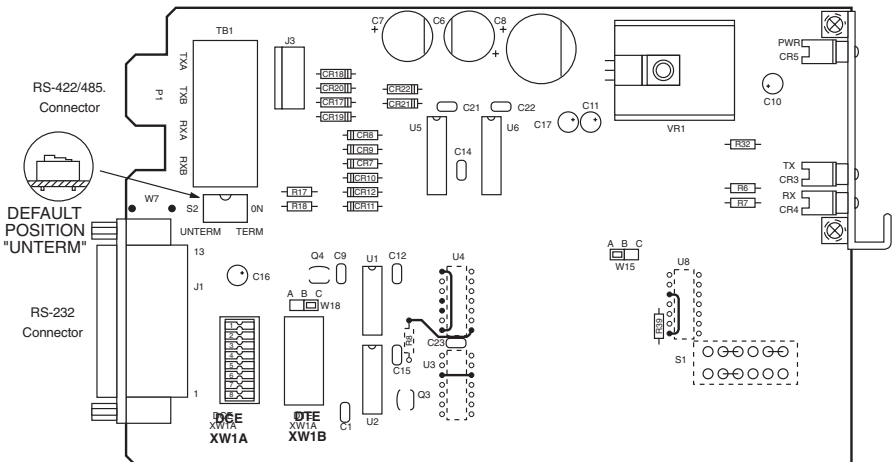

Fig. 3-1. The RS-232↔RS-422/485 Converter's Circuit Board.
Here's how to install the RS-232↔RS-422/485 converter. Refer to Fig. 3-1 for the location of components on the unit's circuit board.
1. Set the unit's RS-232 port for your application by configuring it for either DTE or DCE operation. For your RS-232 port to appear as a DTE device, put the DIP-shunt jumper (shown in Fig. 3-1) in socket XW1B. For the RS-232 port to appear as a DCE device, put the DIP-shunt jumper in socket XW1A.
3. Some applications require the RS-422/485 interface to be terminated. A resistor network provides this termination on the converter at the RS-422/485 input receiver pins (RXA and RXB). You set terminated or unterminated operation through Switch S2 (see Fig. 3-1).